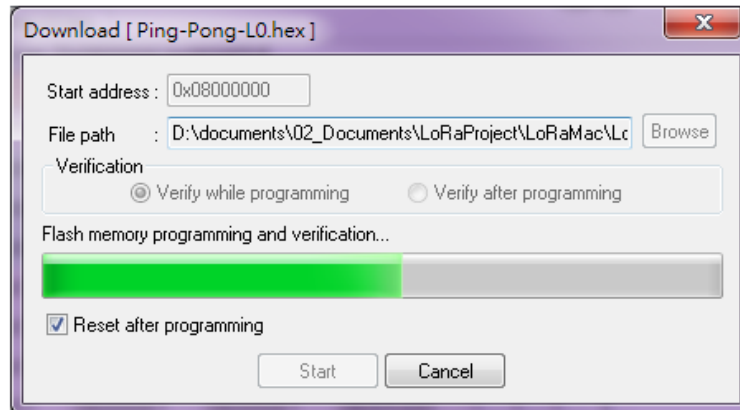

Figure 3.8
- 3) Specify the address from which to start programming as shown in Figure 3.8, it may be a Flash or RAM address. (Optional)